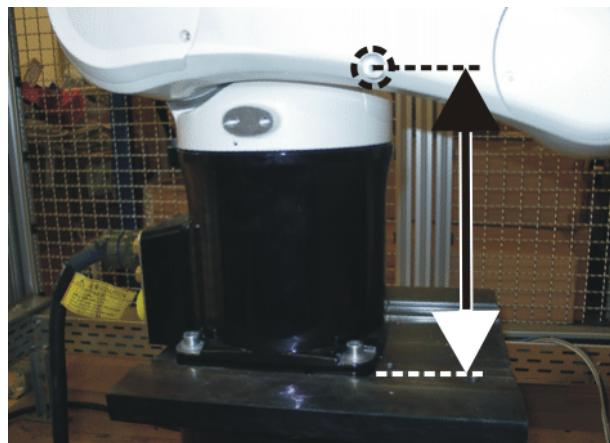

Fig. 10-13: Pre-mastering position A2
- Move A2 into the following position: the distance (measured vertically) between the center of the screw and the lower edge of the base must be **263 mm** (**>>>** Fig. 10-13).